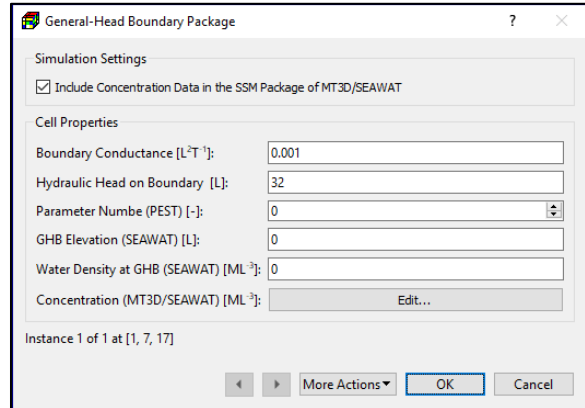
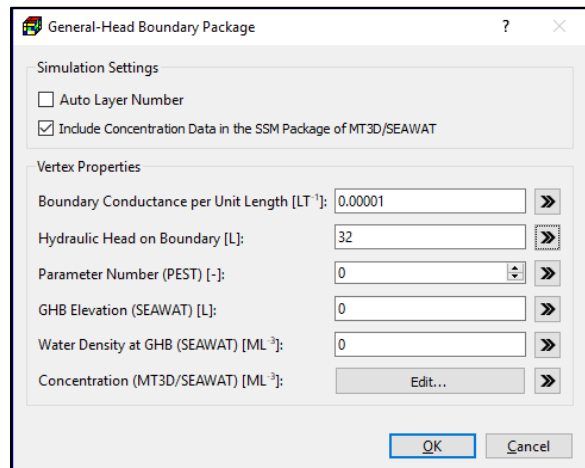
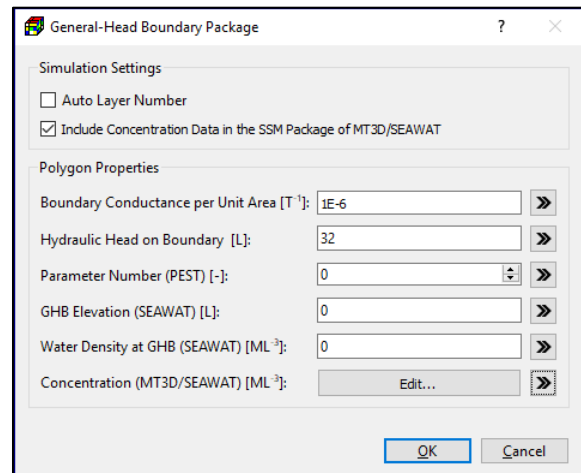

Figure 58. The General-Head Boundary Package dialog box for specifying cell properties
Figure 59. The General-Head Boundary Package dialog box for specifying vertex properties.
Figure 60. The General-Head Boundary Package dialog for specifying polygon properties.
1. **All input methods:** The data entry dialog boxes (Figure 58, Figure 59, and Figure 60) of all input methods include a Simulation Settings group that contains the following option.
2. **Cell-by-cell input method:** Figure 58 shows the dialog box for specifying one or more external boundary segments to a model cell. For each segment, the following properties need to be assigned.
- **Boundary conductance (CB) [L^2T^{-1}].** The value of CB depends on the characteristics of the aquifer and the external boundary.
- **Hydraulic Head on Boundary (HB) [L].** This is the head at the segment of external boundary.
3. **Polyline input method:** Figure 59 shows the dialog box for specify data to one or more vertices of a polyline.
- If this box is checked, the layer number of a segment of external boundary along the polyline is determined by comparing its *hydraulic head on external boundary (HB)* with the top/bottom elevations of the cells in the same vertical model column as that segment.
4. **Polygon input method:** Figure 60 shows a dialog box for specify the following data to a polygon. These data may be applied to model cells following the rules described in Section 3.4.2.3 and additional rules below.